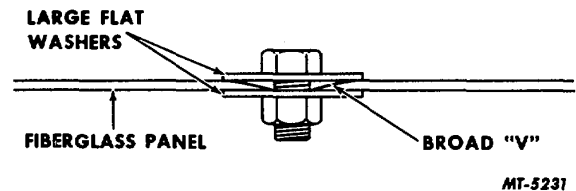

Fig. 6
2. Align parts. A nut and bolt with large flat washers may be used to draw parts together. See Fig. 6.